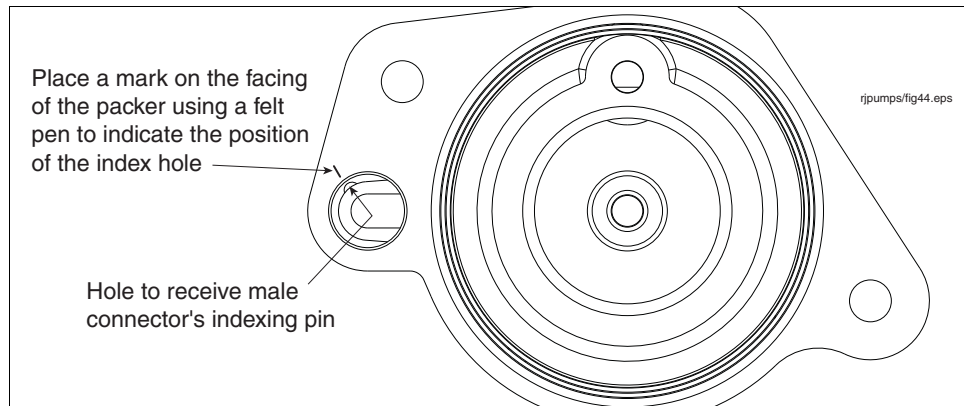

Figure 38. Male Connector Index Hole In Base Of Socket
6. Place a mark on the facing of the Packer using a felt pen to indicate the position of the index hole (see Figure 38).
11. The indexing pin on the back of the connector must seat in the index hole in the base of the male connector's socket (see Figure 38) for the connector to be correctly oriented relative to the female connector.